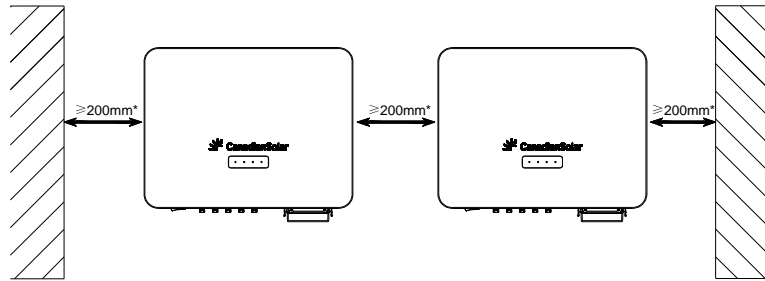

FIG 3-4 Multiple inverters installation clearance
- 2) In case of multiple inverters, reserve specific clearance between the inverters (FIG. 3-4).